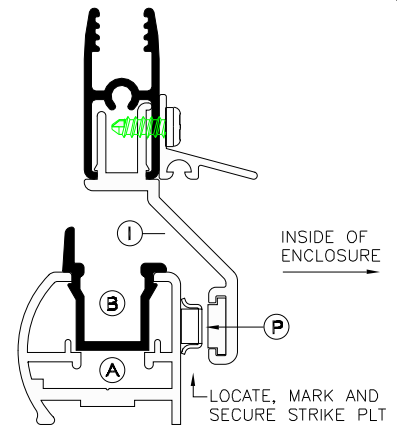
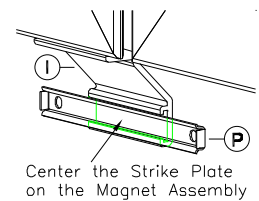

figure 8
figure 8a
13. Attach and center the Strike Plate face to the Magnet Holder Assembly and shown in figure 8a. Step inside the shower enclosure, close the door and mark the Strike Plate hole locations on the Sill. Open the Door, drill the hole locations and secure the Strike Plate to the Sill with two(2) 638phpt Screws (O) as shown exploded view sheet 2 and figure 8 below.